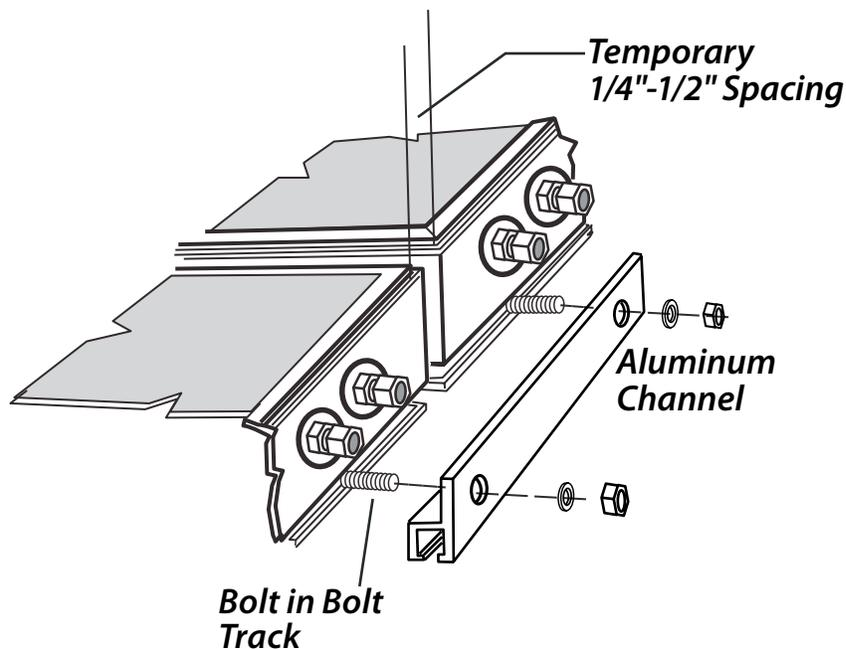

FIGURE 11
3. Insert one 3/8" Bolt into the Bolt Track of each Collector. Using the Aluminum Channel supplied (**Figure 11**), align the Bolts with the holes in the Channel. Place the Channel on the Bolts, center it between the two Collectors and apply Flat Washers and Nylon Lock Nuts to each. Tighten securely.